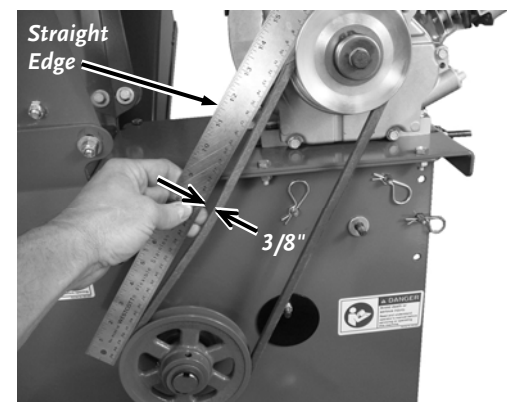

Figure 15
3. After greasing, check the Side Bearing Collar Set Screws (**Figure 15**) for tightness with a 5/32" Allen Wrench. There are two Set Screws per Bearing. If they are loose, reset them with Loctite® 243, obtainable at most hardware stores.
2. Place a straight edge onto the full length of the Belt (**Figure 15**).